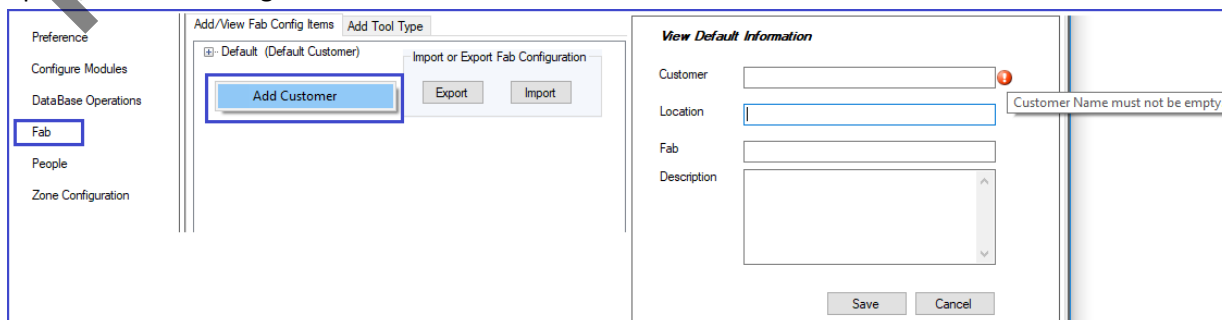

Figure 5-11 To add Customer information
4. Right-click in the blank area and then click the **Add Customer**. The **Customer Information** section opens, as shown in Figure 5-11.